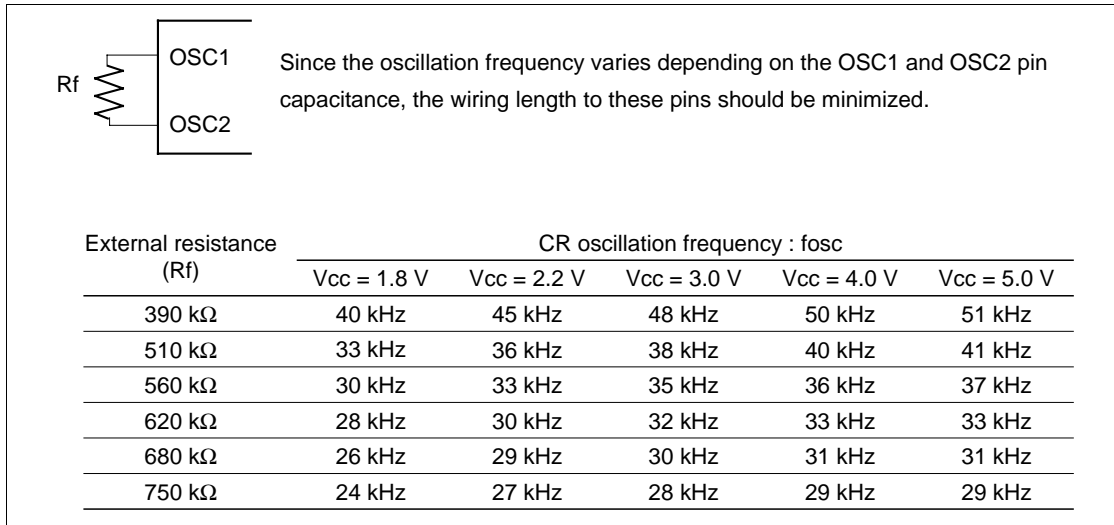

Figure 62 Internal Oscillation
14. Applies to the internal oscillator operations using oscillation resistor Rf (figure 62).